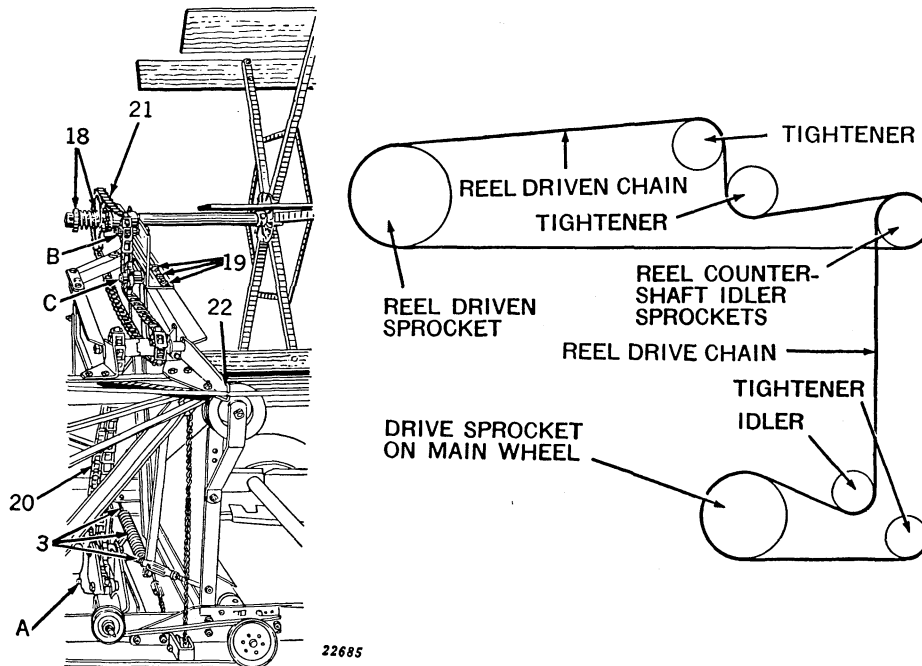

Figure 30
3. Bolt upright angle and diagonal brace angle to reel inner support angle. Reel lifting spring hooks into hole in platform front sill and to tilting angle with double nuts on eyebolt. (See "3," Figure 30.)